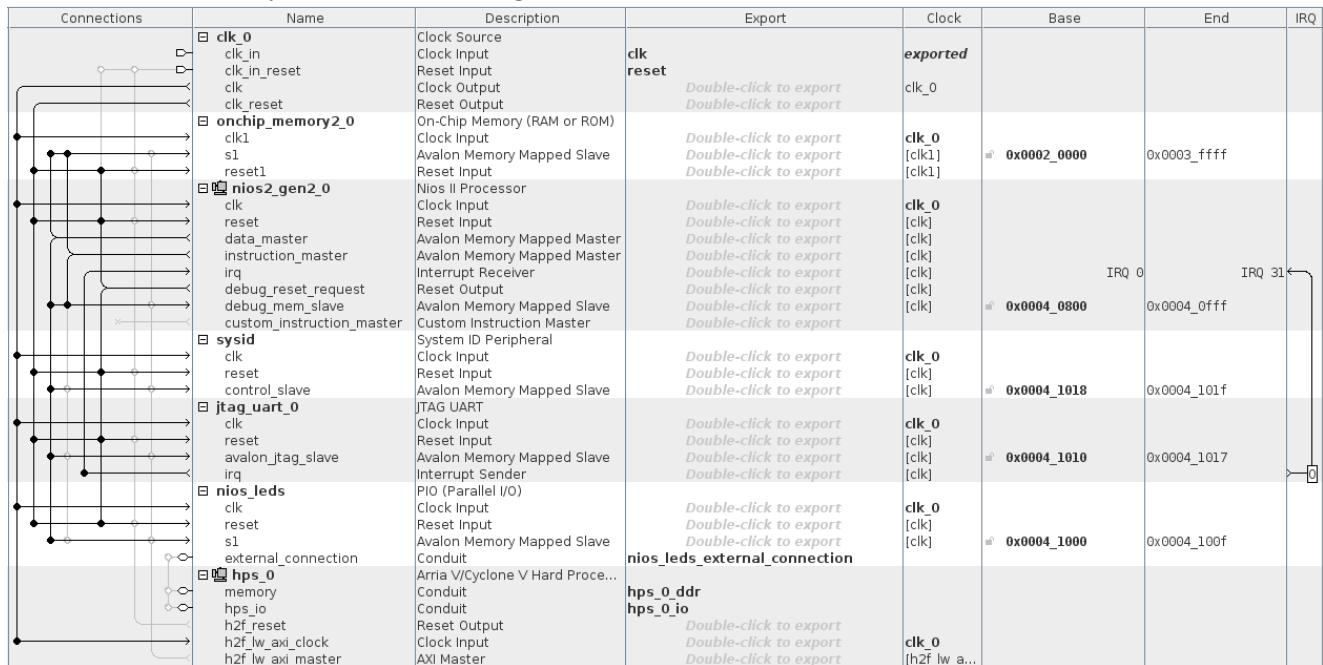

Figure 9-12. Adding the "Standalone" HPS to the System
24. Connect the system as shown in Figure 9-12 below: